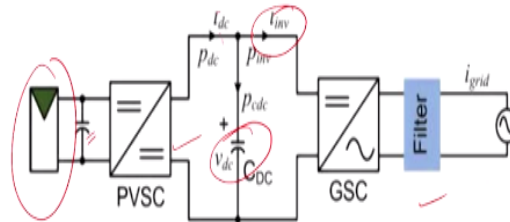

Fig.2 DC link in grid-connected PV power systems; two-stage conversion;
- The DC bus is important to interface the PVSC and the GSC in a two-stage conversion system, as shown in Fig.2.
Now, this is the figure 2 which shows the DC link grid connected PV power system for that two-stage conversion. The DC bus is important to interface the PV side converter and the grid side converter in a two-stage conversion system. First you got a solar panel, thereafter you got a capacitor I told you, you know there can we are momentarily blocking of voltage or current and depending on the topologies of this converter, DC to DC converter, for this reason, you require a input capacitor.